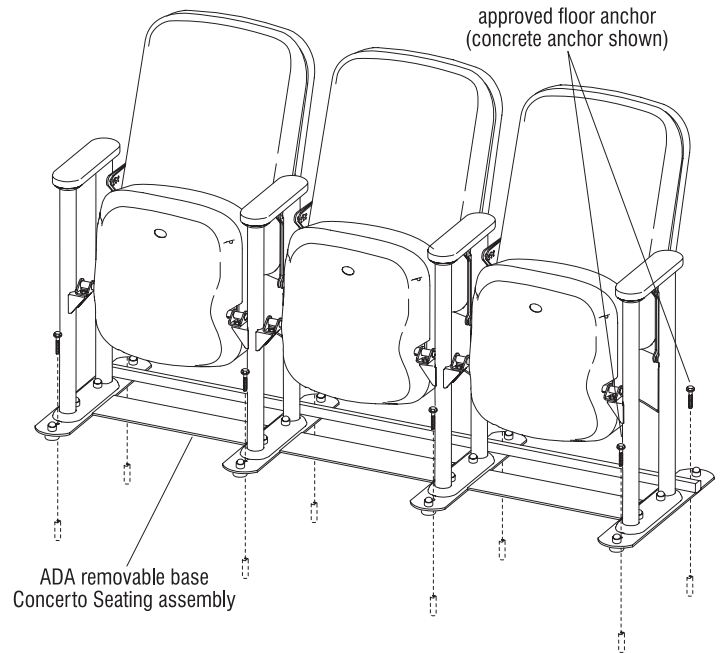

Figure 12
6. Reposition the unit and insert fasteners through to the floor following the anchor requirements (Figure 12).
7. For removal of the unit, remove the hardware that anchors the ADA base to the floor and move the unit. To reinstall, repeat steps 5 & 6 (Figure 12).